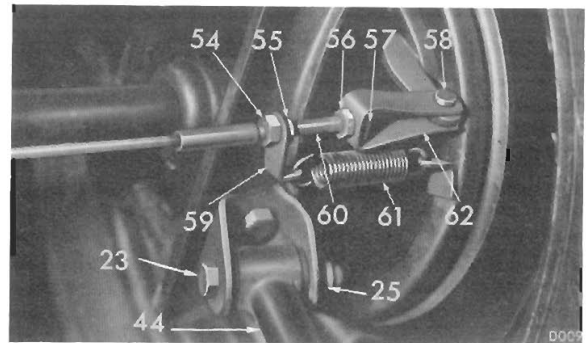

Fig. 42. Handbrake connections
2. Disconnect the handbrake cable (60) from the backplate lever withdrawing the clevis pin (58). Disconnect the spring (61). Fig. 42.
5. Jack up the vertical links (12), fit the dampers as described on page 4-122 and reconnect the axle shaft couplings.
6. Connect the handbrake cable to the back-plate lever, refit the pull-off spring (61). Fig. 42, reconnect the flexible brake hose. Adjust and bleed the brakes.
7. Place a trolley jack under the differential casing, remove the chassis stands and, with the vertical links supported at their running height, load the car and lower its rear end until the axle shafts assume their static laden operating position. This is to allow the rubber bushes to assume their correct working position before tightening the nuts (15), (14) and (54).